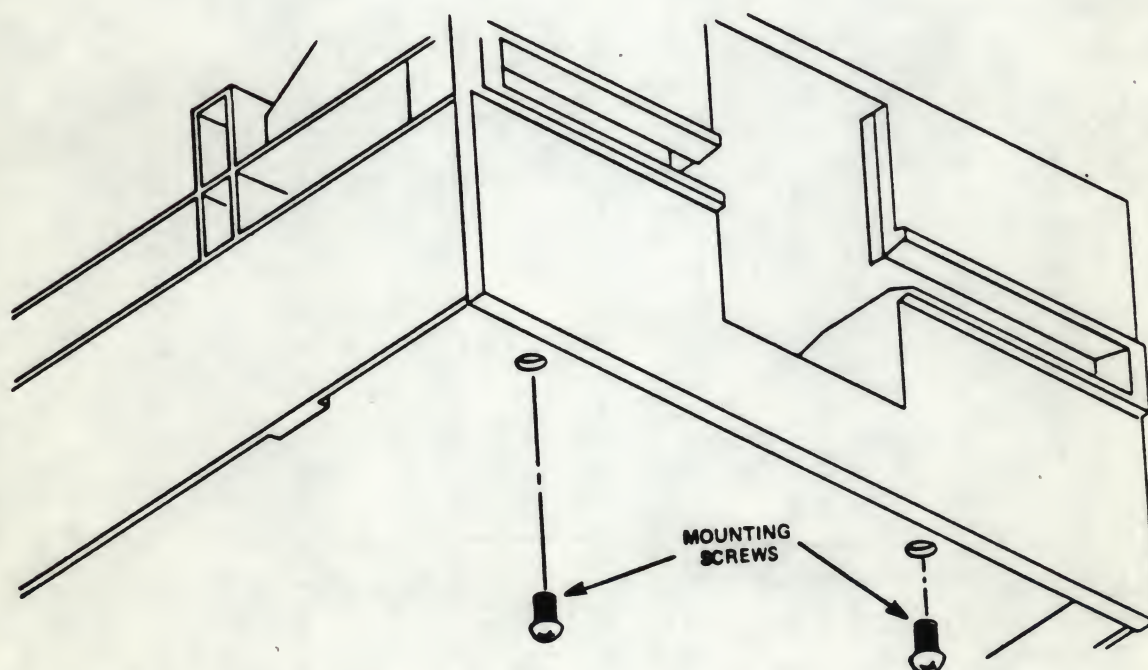

Figure 5-13
5.7.5 With a Phillips screwdriver, remove the two (2) mounting screws that attach the front panel to the chassis (see Figure 5-13).
5.7.8 After upending the disk drive, using a Phillips screwdriver, reinstall the two (2) mounting screws that attach the front panel to the chassis (see Figure 5-13).
5.8.3 With a Phillips screwdriver, remove the two (2) mounting screws located near the front of the disk drive, underneath the chassis, that attach the front panel to the chassis (see Figure 5-13).